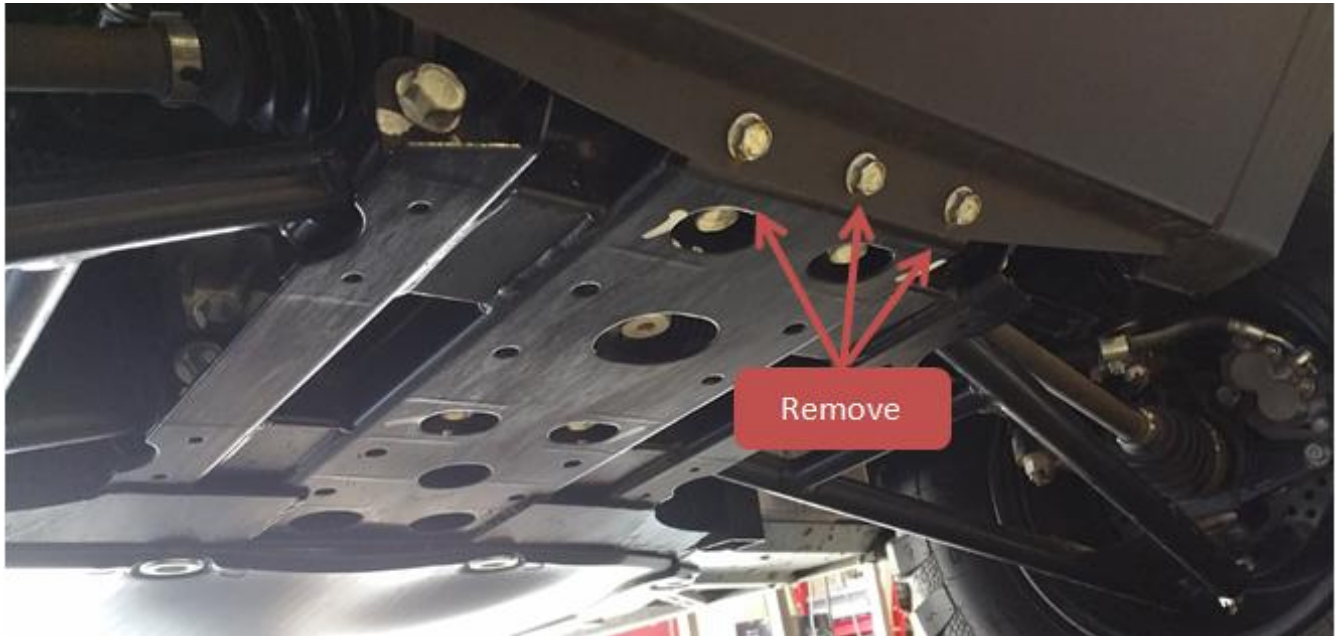

Figure 1
1. Remove the three bolts found at the bottom of the front bumper as shown in Figure 1.